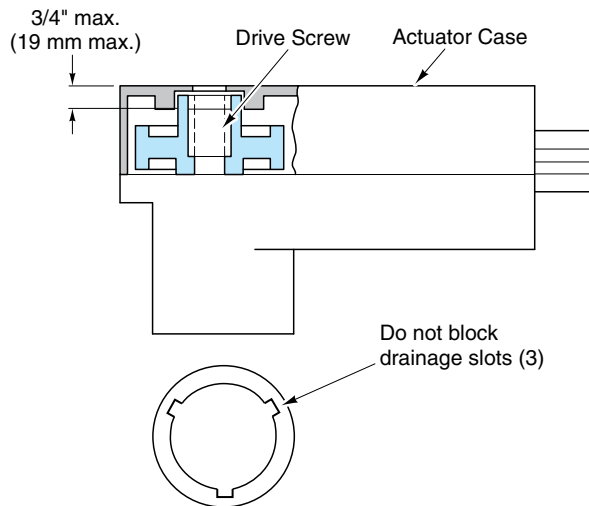

Figure-4 MF-221xx Actuator Drive Screw Position.
11. Confirm that the drive screw for the MF-221xx actuator is mounted the required distance from the top of the actuator case. See Figure-4. If the drive screw is not in position, insert a tapered pencil or pen into the drive screw and rotate.